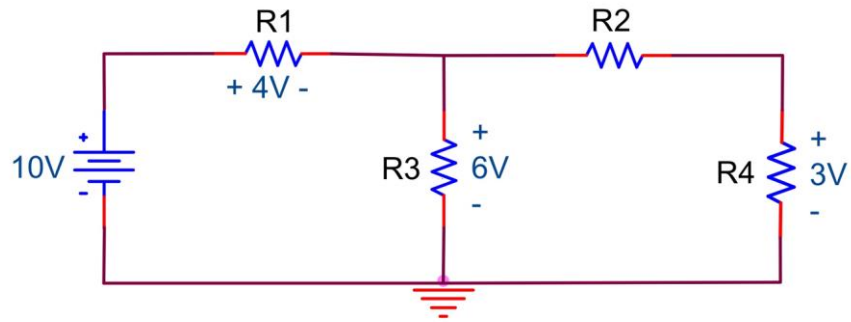

Figure 5.20
3. Build and simulate Figure 5.20 with the values used in the laboratory. Ensure that all voltages and currents are displayed. Compare these values to the ones obtained in the laboratory.